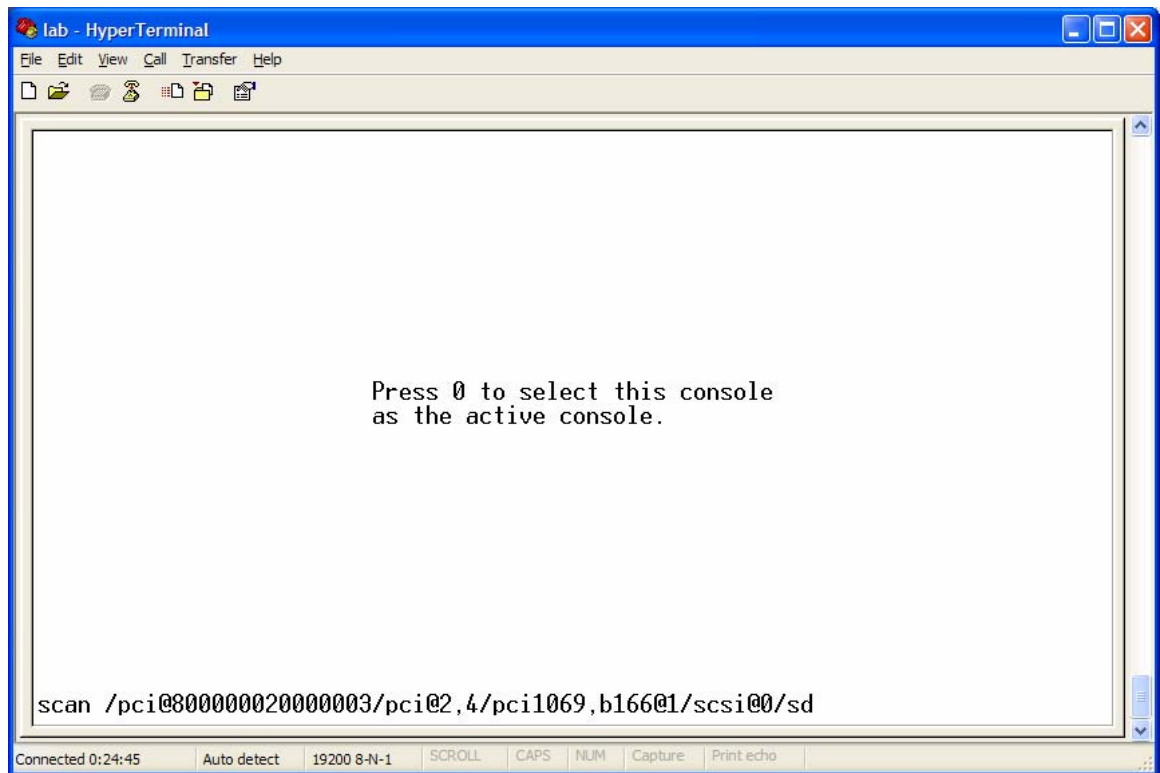

Figure 10. Pressing **0** designates your TTY device as the active console
2. When you see the screen shown in Figure 10, type **0** to select your tty device as the active console. Then, press **Enter**.